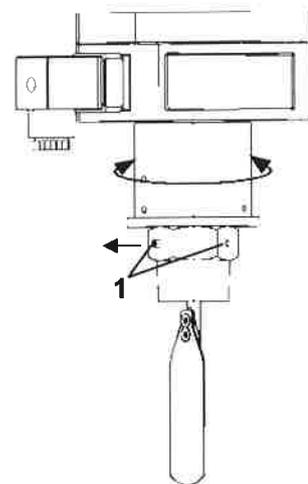

Figure 4
- The alignment of the UB1/UBX can be adjusted after it is installed in the process connection. For this purpose, loosen the threaded pin with an Allen key (Pos. 1) until the device can be rotated freely (clockwise/anticlockwise) in the connection fitting (Fig. 4). Re-tighten the threaded pin with an Allen key (Pos. 1) when the desired position is reached (torque = 0.8 Nm).